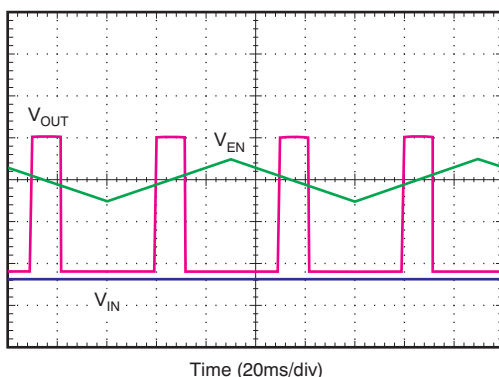

Figure 28. Enable Pin Positive and Negative Threshold
The TPS7A33 provides a dual-polarity enable pin (EN) that turns on the regulator when $|V_{EN}| > 2\text{ V}$, whether the voltage is positive or negative, as shown in Figure 28.